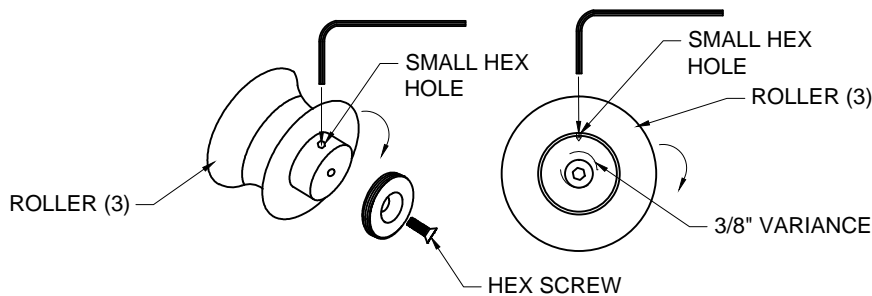

FIG. 1
1. Loosen the hex screw to allow for movement. Then place the allen key in the small hex hole as shown and roll it to the right or left to make the adjustment. [See Fig.1]